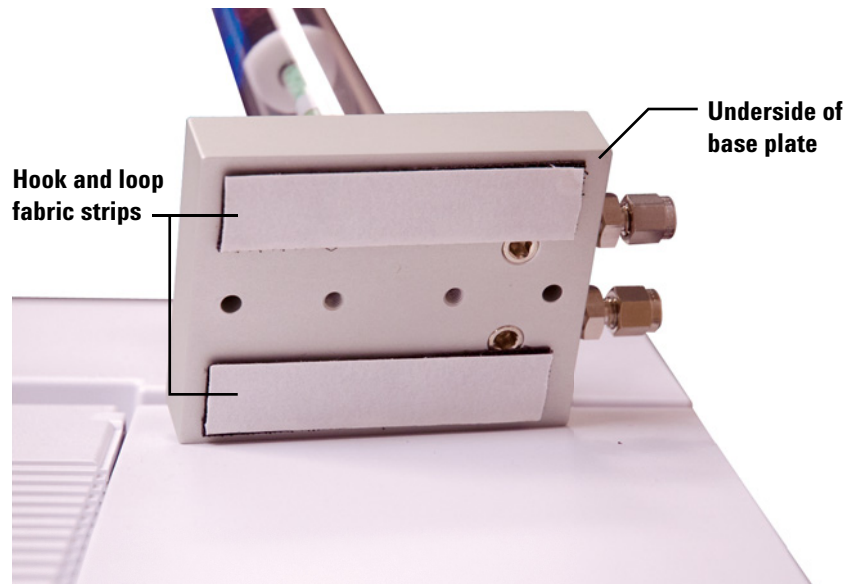

Figure 11 Hook and loop fabric strips attached to the underside of the connecting unit
- 1 Peel the paper adhesive cover from one side of each fabric strip and apply the exposed adhesive to the underside of the connecting unit as shown in Figure 11.